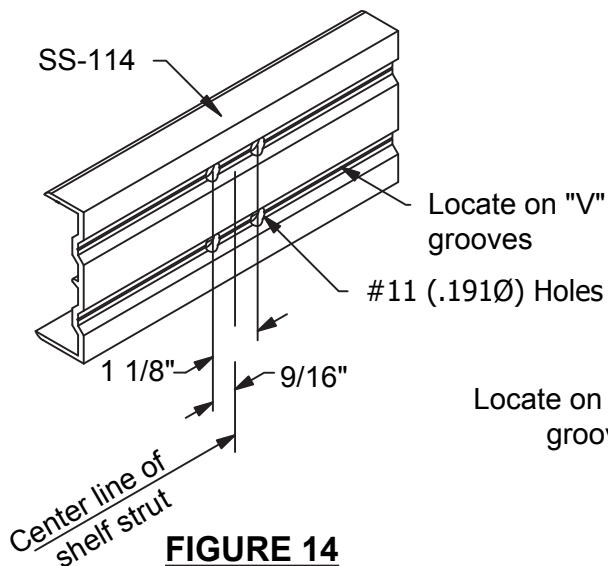
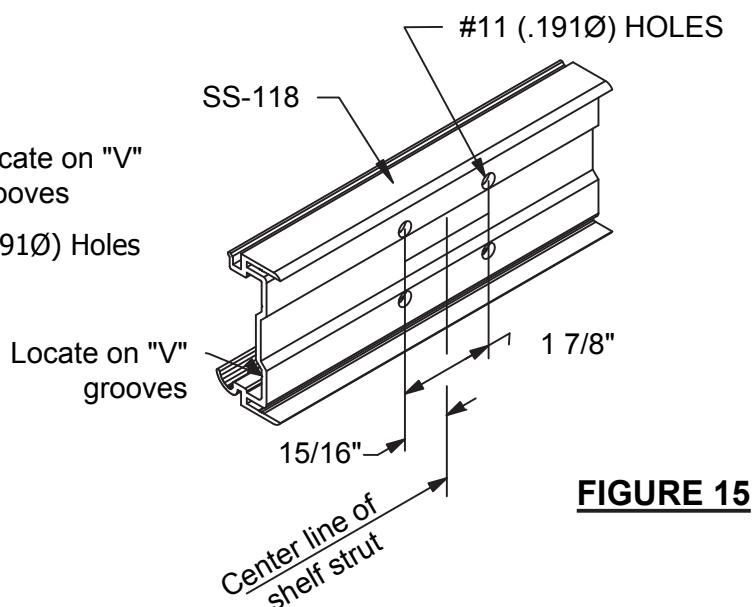

FIGURE 14
FIGURE 15
- 4.3) Fabricate the SS-114 wall mount (see FIGURE 14) and SS-118 cover retainer (see FIGURE 15) as shown. Locate holes at center line of shelf struts. (Struts should be located at center line of vertical mullions. If bay is larger than 5 feet, add an additional strut at mid-lite. Addition struts may also be required at end cap locations.)
Strut may be installed directly to wall mount using (4) FS-58 fasteners. Use hole pattern shown in FIGURE 15.